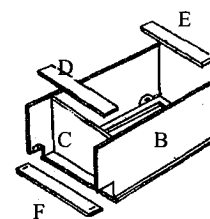

Figure 5
5. Install the back Braces and toe kick (Figure 5): put the top back brace (E) and bottom back brace at rear of side panel (B) (Figure 5). Well align them and lock each cam lock. Install the toe kick by locking the cam lock at both ends (Figure 5).